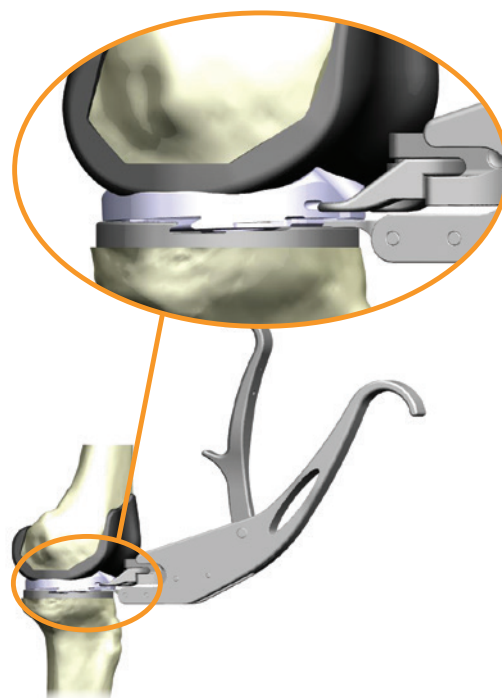

Figure 52
3. Insert the tip of the Articular Insert Assembly Tool into the center notch of the anterior lock detail (handle up) and engage the two tabs of the Tool into the two recesses on the anterior periphery of the insert (Figure 52).